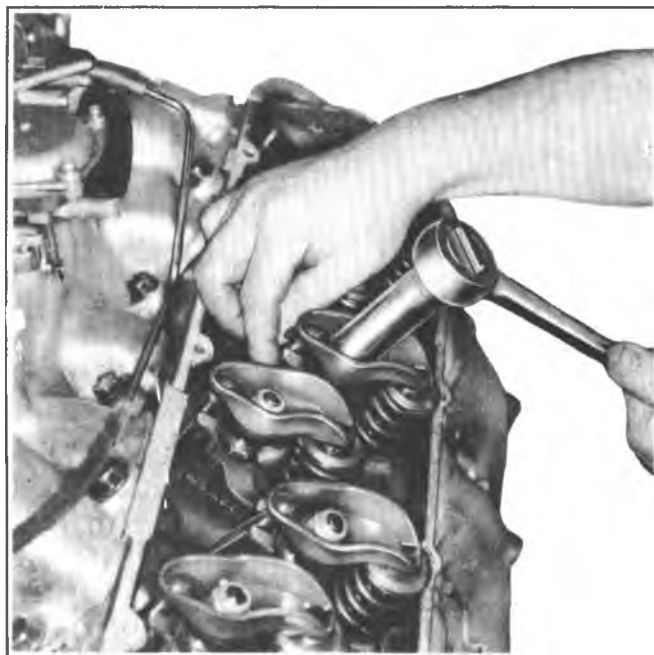

Fig. 6A5-11-Valve Adjustment
- c. Back out adjusting nut until lash is felt at the push rod then turn in adjusting nut until all lash is removed. This can be determined by rotating push rod while turning adjusting nut (fig. 6A5-11). When play has been removed, turn adjusting nut in one full additional turn (to center lifter plunger).